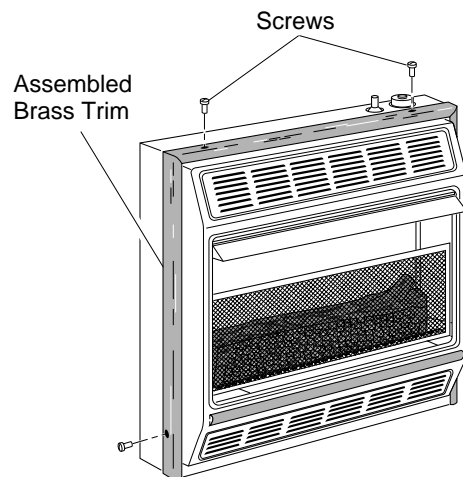

**Figure 3 - Assembling Heater**
3. Place hood on deflector and line up holes (see Figure 3, page 4).
3. Gently slide log between log retaining brackets on deflector assembly (see Figure 3, page 4). The log should fit firmly against bottom of log retaining brackets.
3. Line up screws with holes in front panel (see Figure 3). Insert screws in holes. Attach nuts from inside of front panel. Tighten with wrench.